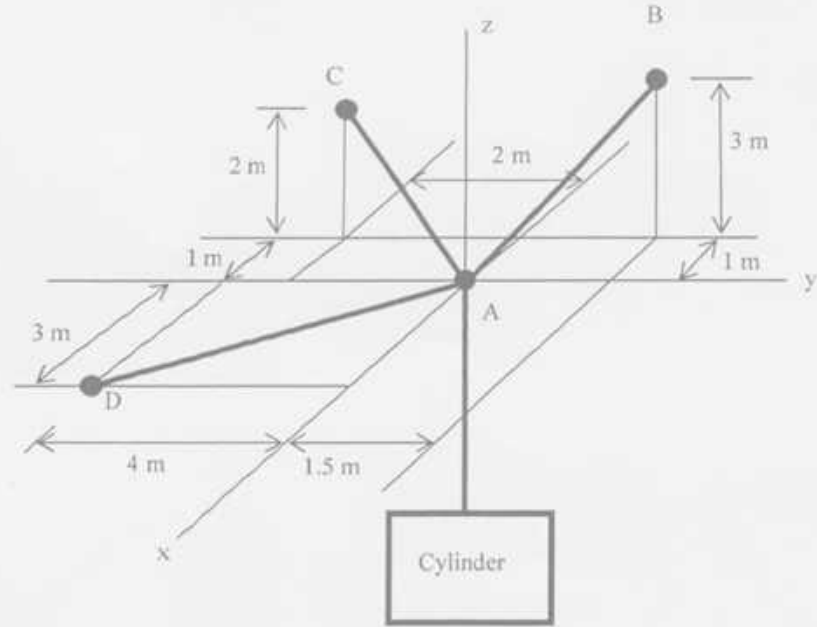

Figure 13
14. If each cable can withstand a maximum tension of 1000 N, determine the largest allowable weight of the cylinder shown in Figure 13.